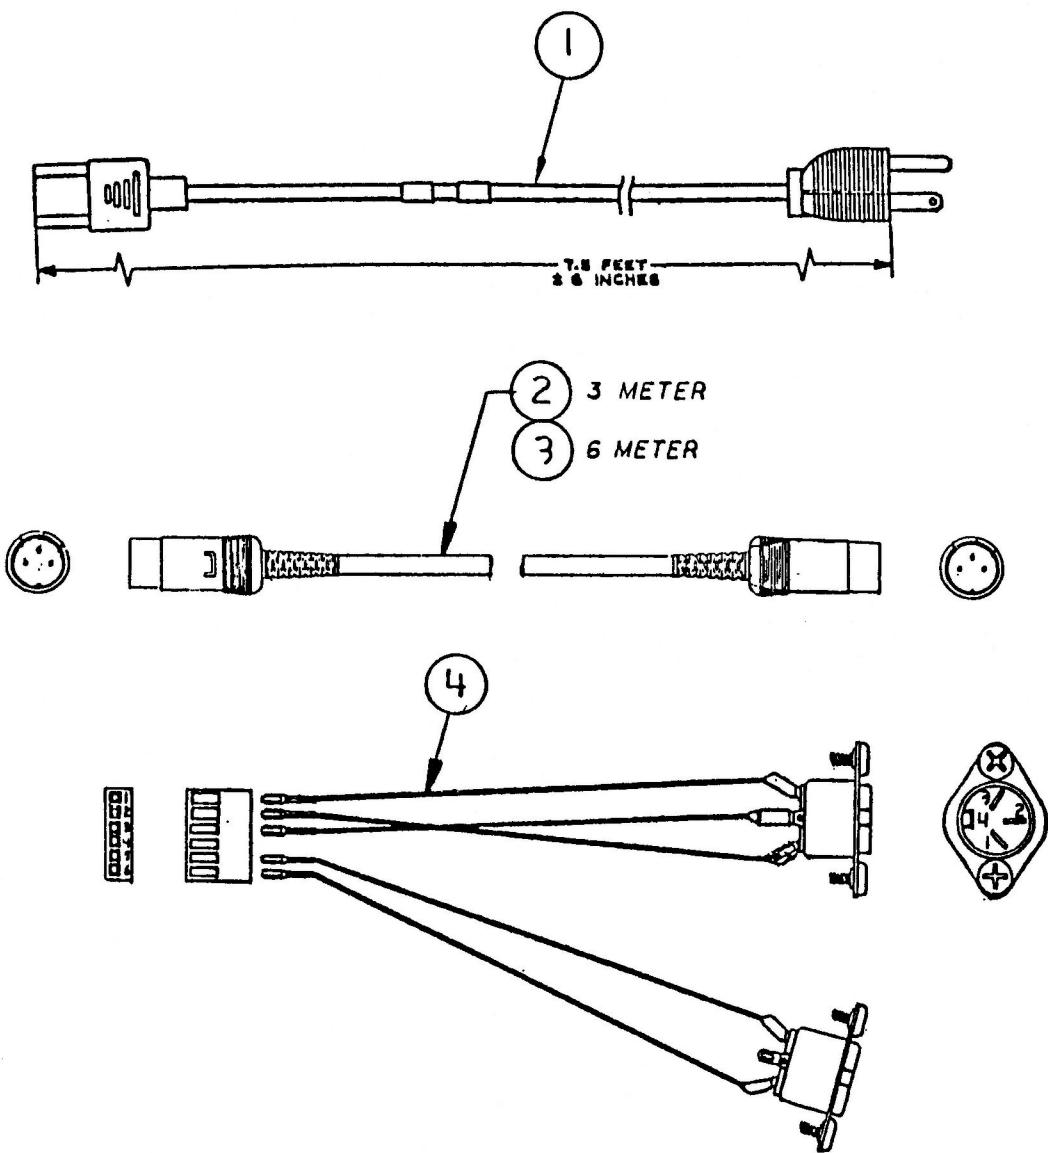

FIGURE 8
- IPL.9 Cables (Figure 8)
CABLES (Figure 8)